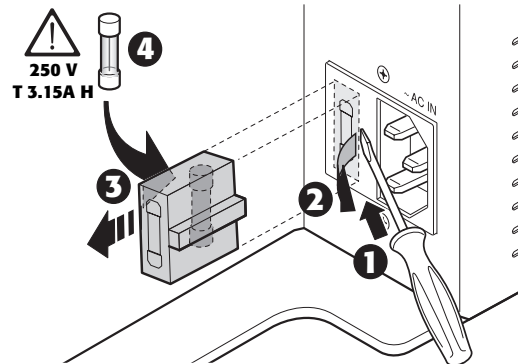

Fig.3
The fuse compartment is next to the mains power connector (Fig. 3). Remove fuse carrier (2) with the aid of a flat blade screwdriver, then change fuse (3). Insert a new spare fuse (4). Use only T 3.15A H fuses.